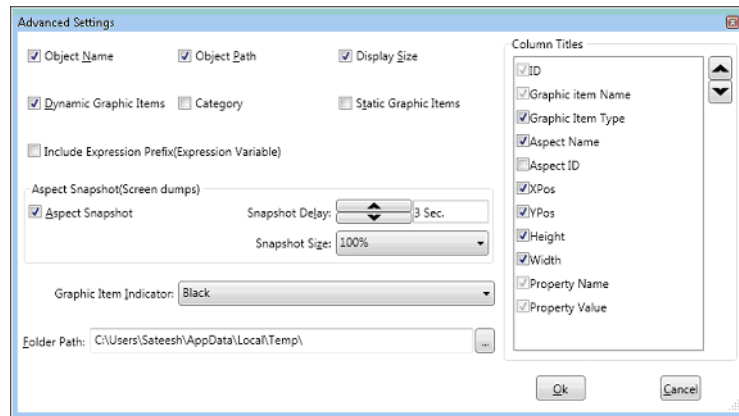

Figure 65. Advanced Settings
1. Type the path in **Folder Path** in the **Advanced Settings** dialog as shown in Figure 65.